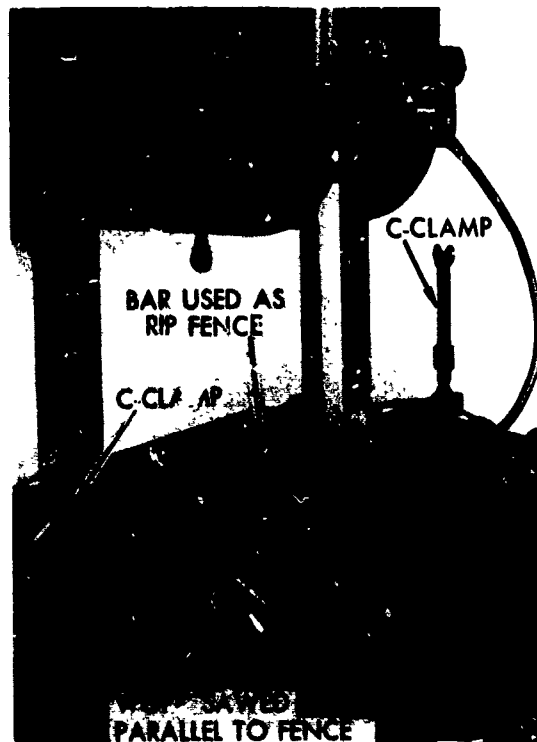

Figure 3-22. Improved rip fence.
**Rip Fence.** You use the rip fence to cut stock so that opposite sides are parallel. The fence must be set parallel to the table slot and located the desired distance from the saw band. A rip fence can be improvised by clamping a metal bar to the table, as shown in figure 3-22. Accurate results can only be obtained if the saw is properly set up and a sharp saw band is used.